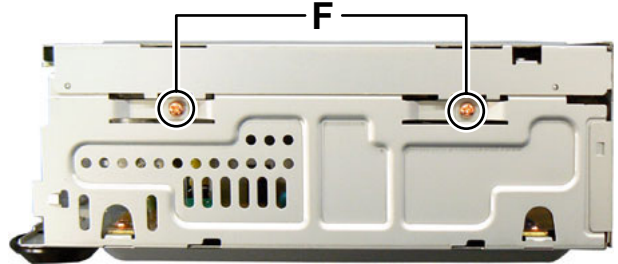

Fig.10
- (5) Remove the four screws **F** attaching the both side of the Top chassis. (See Fig.10)